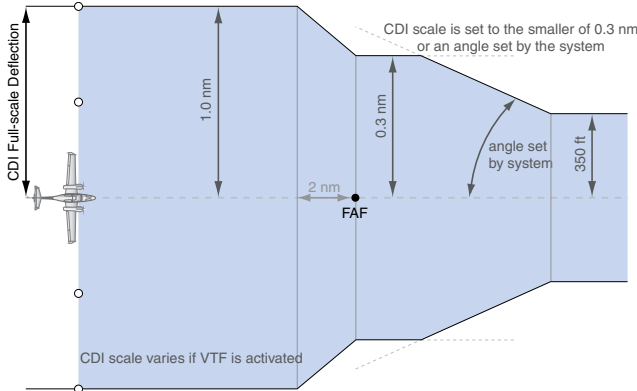

Figure 2-23 Typical LNAV and LNAV+V Approach CDI Scaling
- During **approach**, the CDI scale ramps down even further (Figures 2-23 and 2-24). This transition normally occurs within 2.0 nm of the final approach fix (FAF). The CDI switches to approach scaling automatically once the approach procedure is activated or if Vectors-To-Final (VTF) are selected.
| Approach (Non-precision) | LNAV | 1.0 nm decreasing to 350 feet depending on variables (Figure 2-23) |